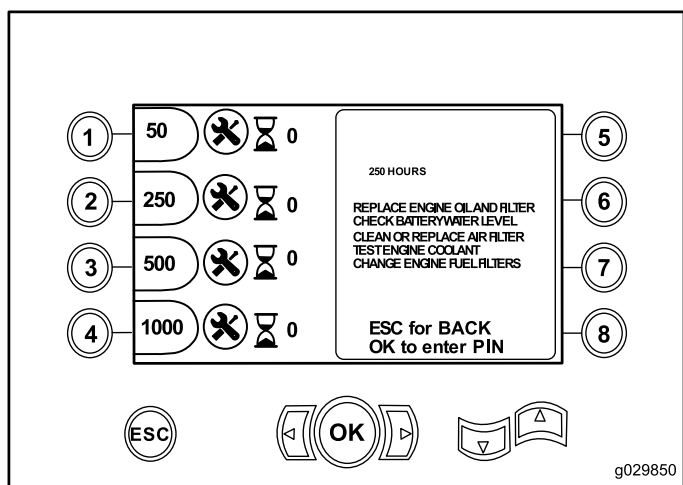

Figure 12
- Button 2—250-hour maintenance schedule (Figure 12)